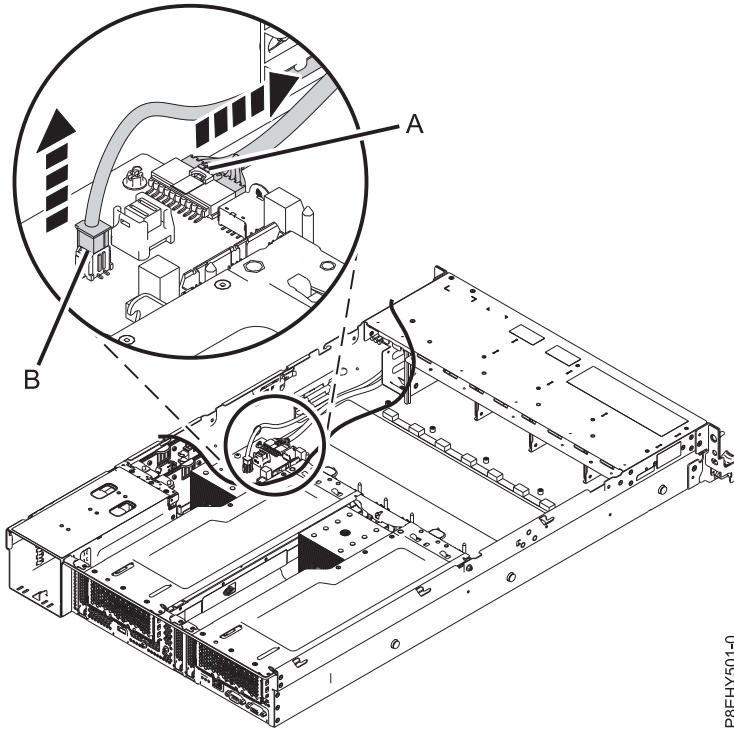

Figure 56. Removing the front USB cable and the power switch cable from the system backplane and disk drive fan card
5. Pressing the latch release on the connector, disconnect the front USB cable (A). See Figure 56 on page 58.
6. Pressing the latch release on the connector, disconnect the power switch cable (B) from the system backplane. See Figure 56.